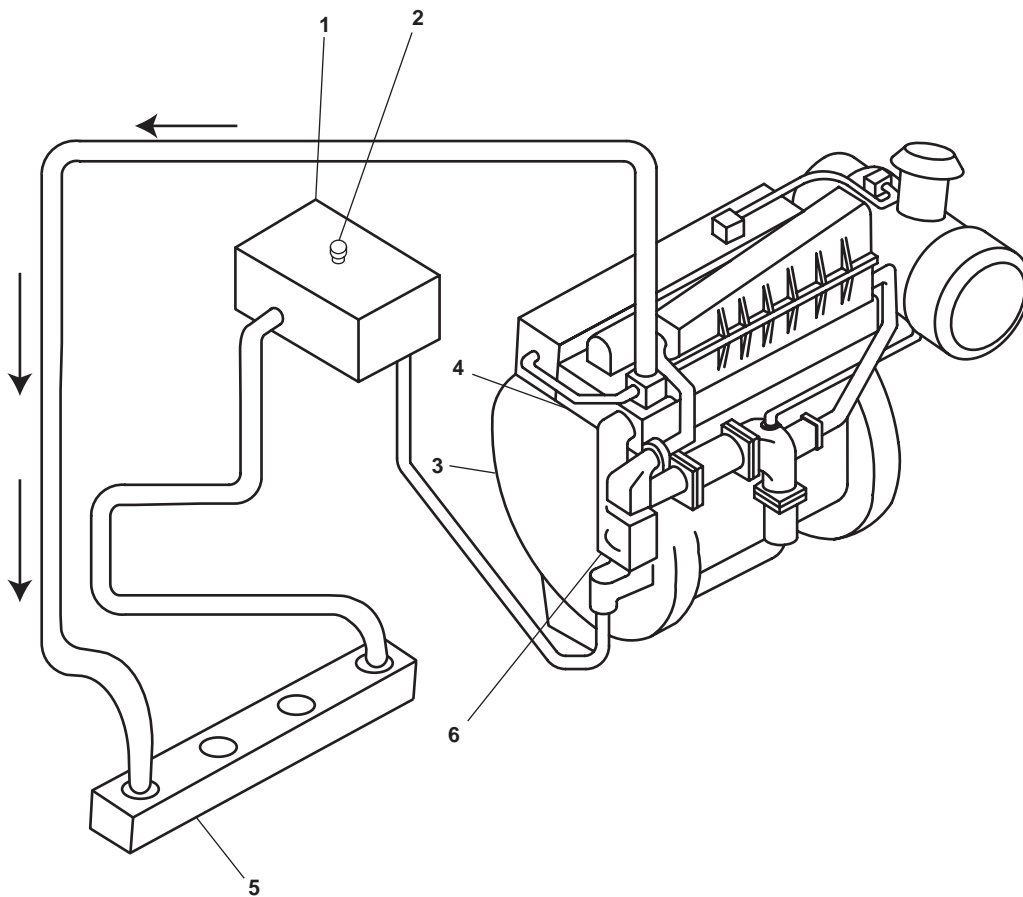

Figure 1. Typical Keel Cooler Engine Cooling System
The expansion tank (figure 1, item 1) is a reservoir for the coolant. It is the highest place in the cooling system. The volume of the coolant can change in the expansion tank without affecting the coolant level in the remainder of the cooling system.
The expansion tank (figure 1, item 1) in conjunction with the pressure cap (figure 1, item 2) controls the pressure of the cooling system. Excessive coolant pressure will vent through the pressure cap.
Only the main and SSDG engines have keel coolers (figure 1, item 5) as part of their systems.
The keel cooler (figure 1, item 5) is mounted on the external hull of the vessel and transfers heat from the engine coolant directly to the sea.